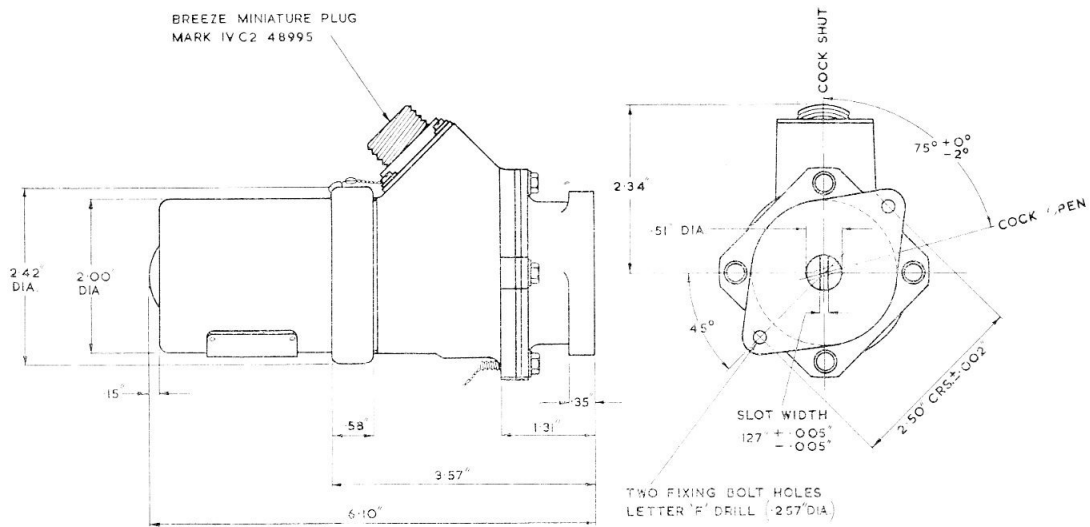

Fig. 1. Installation drawing
| Installation drawing | Fig. 1 |
2. The snap action limit switches in the Mk. 18 are adjusted during assembly to permit 75 deg. angular travel of the coupling shaft. This adjustment requires the use of a manufacturers special rig, and no attempt should be made to alter the setting. Detail of the movement of the coupling shaft relative to the mounting flange is shown (*fig. 1*). The operating times under various loadings at nominal 28 volt, is as follows :—